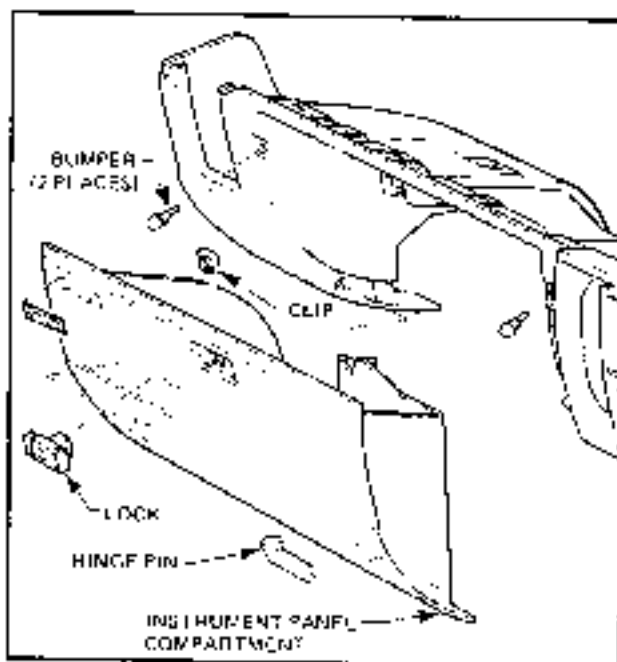

Figure 1A-15
5. With instrument panel compartment open and with the blade of a screwdriver located between head of hinge pin and right hand compartment side, prise out hinge pin compartment (refer Fig. 1A-15) then remove compartment.
8. Remove touch switch control panel and electrical connector (refer Fig. 1A-10).
9. Remove screws securing the centre nozzle and instrument location frame assembly (refer Fig. 1A-10) disengage electrical connectors from front end wiring harness then remove frame assembly.